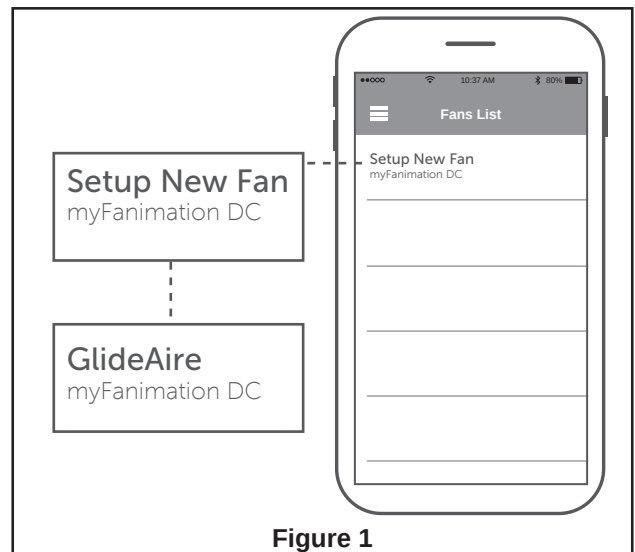

Figure 1
1. Open the fanSync app and tap Setup New Fan to begin setup. (Figure 1)
- ☐ **1. Installing Wall Holder:** (Figure 1)